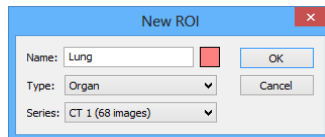

Figure 235 – New ROI dialog
2. The **New ROI** dialog for defining the main properties of the new ROI is then displayed (see Figure 235).